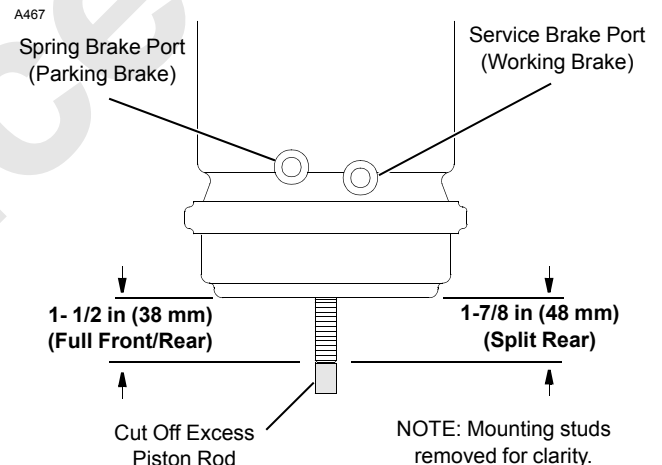

FIGURE 5-10
See Figure 5-10 for the following procedure.
4. Cut off piston rod at 1-7/8 in (48 mm) as shown in Figure 5-10 for standard actuators and 1-1/2 in (38 mm) for clamshell drum actuators.
4. Cut off piston rod at dimension given in Figure 5-10 for **past production** actuators.
5. Connect air lines to proper ports of actuator (Figure 5-10):